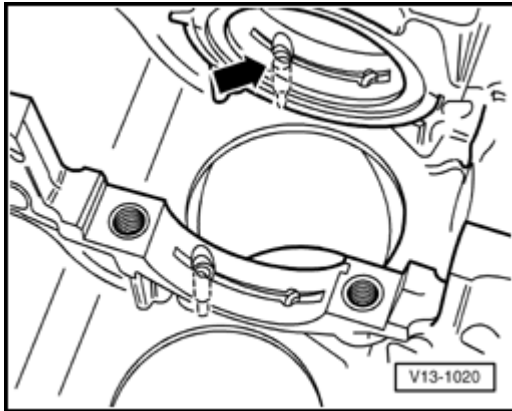

Fig. 1 Removing and installing oil spray jet
- ◆ Removing and installing ⇒ Fig. 1